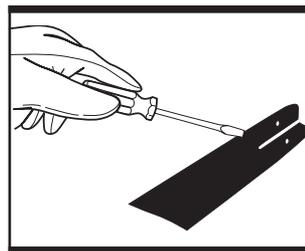

Fig. 30
- 2). Using a screwdriver, putty knife, wire brush or other similar instrument, clear residue from the rails on the guide bar. This will keep the oil passages open to provide proper lubrication to the bar and chain.(See Fig.30)